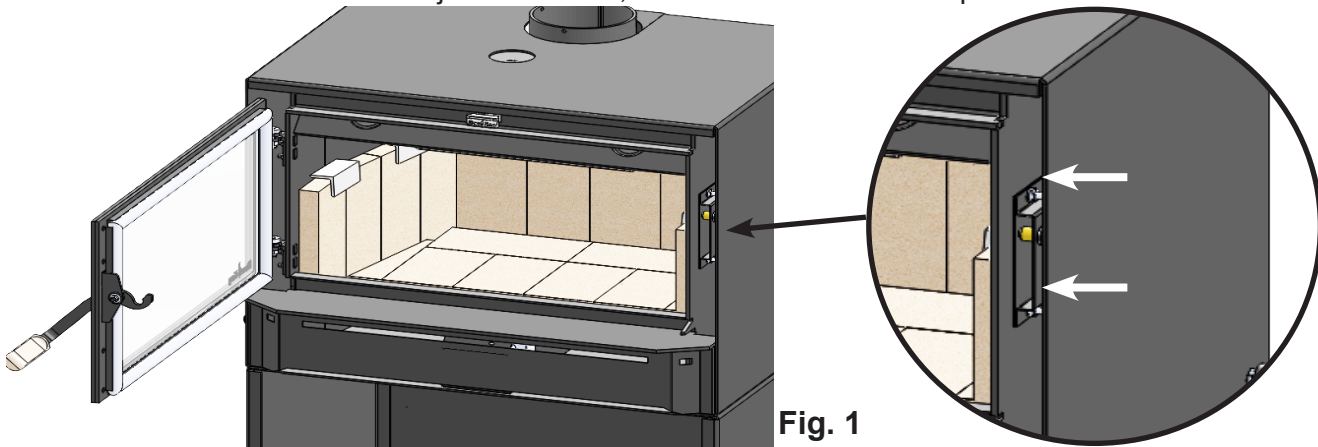

Fig. 1
1. Open the loading door to gain access to the latch catch on the right side of the firebox. **(Fig. 1)**